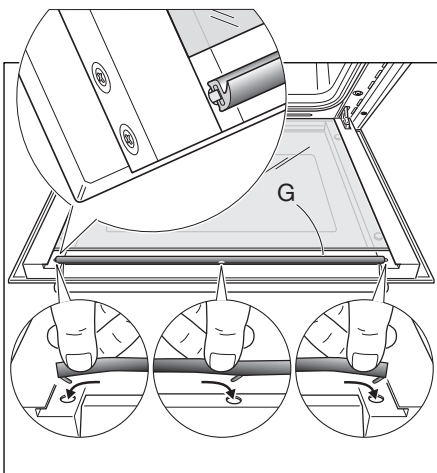

Fig.24e
- Replace the seal "G" by hooking in the three fixing hooks. Make sure that you put it in the correct way. (Fig. 24e)